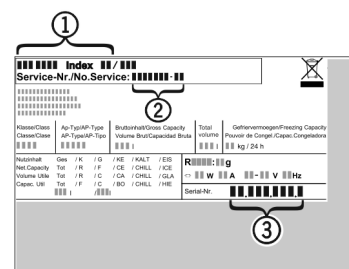

Fig. 14
- Read the appliance designation *Fig. 14 (1)*, service No. *Fig. 14 (2)* and serial No. *Fig. 14 (3)* off the model plate located inside the appliance on the left-hand side.
- Notify the customer service, specifying the fault, appliance designation *Fig. 14 (1)*, service No. *Fig. 14 (2)* and serial No. *Fig. 14 (3)*.